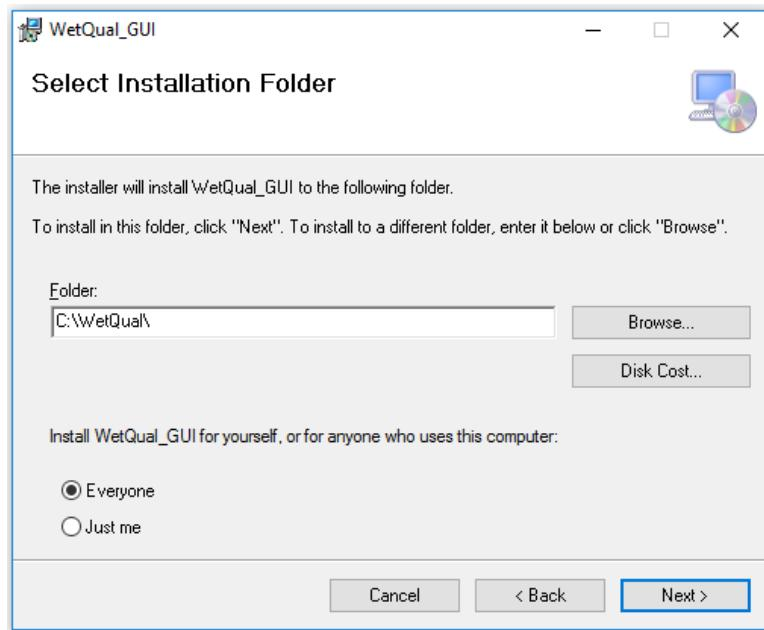

Figure 2.9
3. Click “**Next**”, then choose the installation folder. The default folder, “C:\WetQual\” is recommended (Figure 2.9).